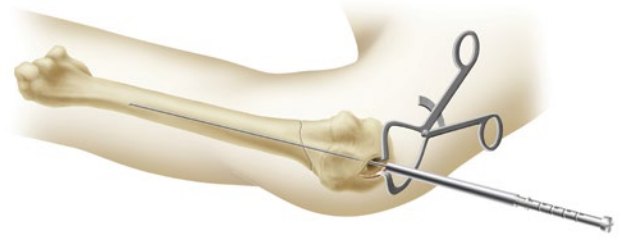

Figure 10
2. Slide the Ruler (7175-1126) over the proximal end of the 2.0mm Graduated Ball Tip Guide Rod and advance the open end of the Ruler to the location where the proximal portion of the implant will be seated, just below the articular surface of the proximal humerus (Figure 10).